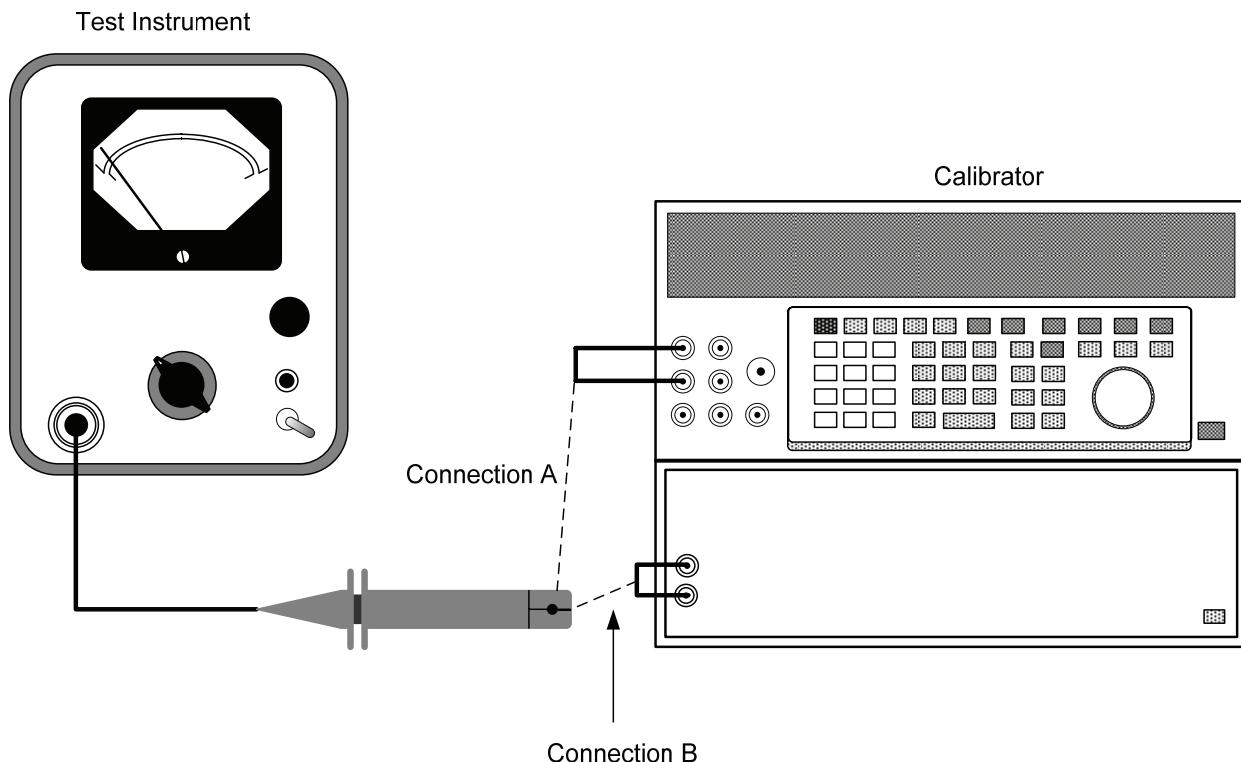

Figure 2. Range and linearity - equipment setup.
(1) Connect equipment as shown in fig. 2, Connection A.